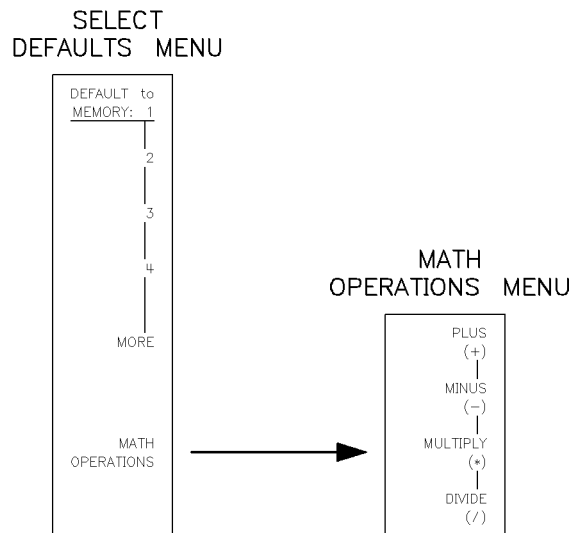

Figure 5-30. Select Default Trace Math
2. On the Display menu, press **SELECT DEFAULTS**. This displays the Select Defaults menu (shown in Figure 5-30).
3. Press **MATH OPERATIONS**. This displays the Math Operations menu (Figure 5-30). The current selection is underlined. In the following descriptions, the term “trace” refers to complex data pairs in real, imaginary format. When the term “corrected” is used, it means that the data is calibrated *if* a valid calibration is currently active.